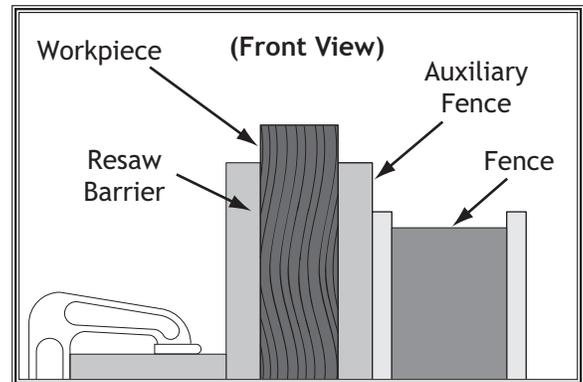

Figure 80. Example illustration of a resaw setup.
5. Place workpiece against auxiliary fence and slide resaw barrier against workpiece, as shown in **Figure 80**. Now clamp resaw barrier to top of table saw at both ends, making sure it is parallel to fence.